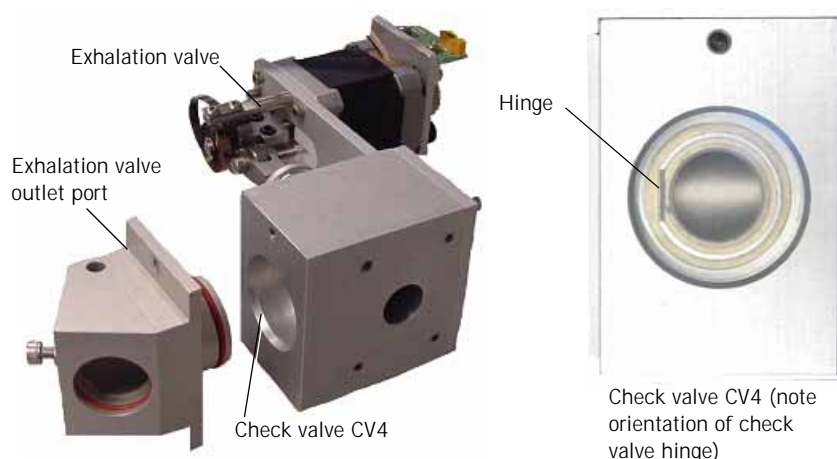

Figure 10-40: Inspecting O-rings in Exhalation Valve Outlet Port and Check Valve CV4 Orientation
3. Inspect the two O-rings on the exhalation valve outlet port (Figure 10-40). Replace the O-rings if they are cracked or deformed. Lightly lubricate O-rings with Krytox GPL226 lubricant.